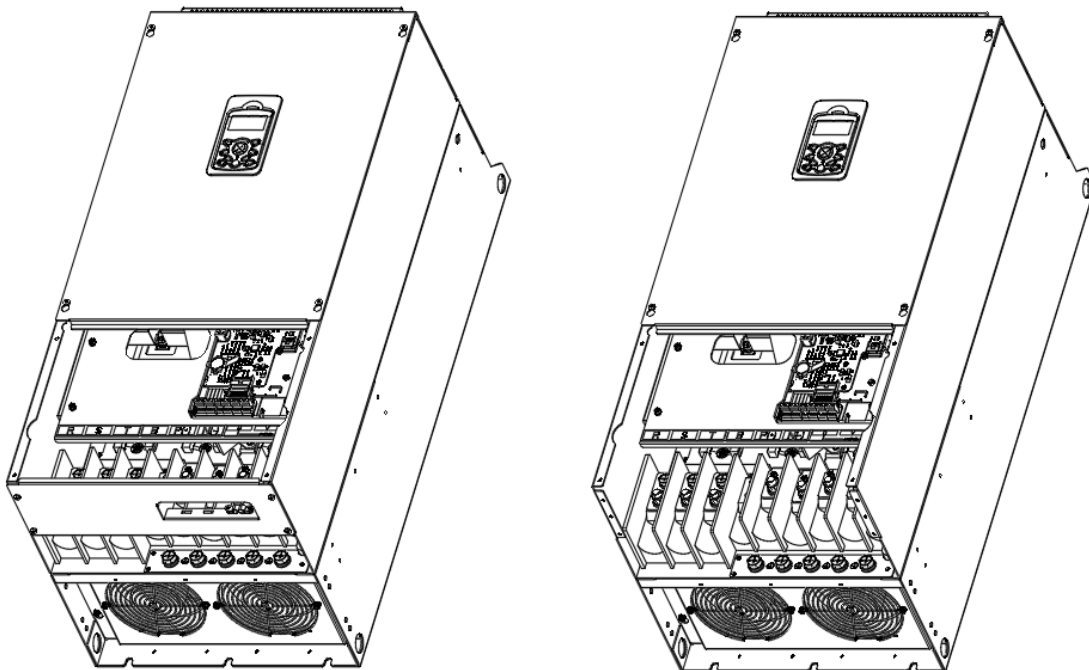

Figure 10. Remove Power Cover and Front cover
- ① Remove the Power cover and Front cover of the product as shown in the Figure 10.